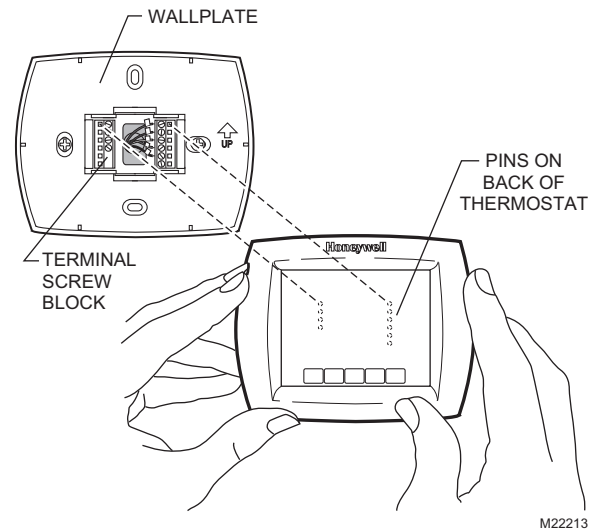

Fig. 24. Mount thermostat to wallplate.
1. Align the terminal screw blocks with the pins on the back of the thermostat. Push the thermostat straight onto the wallplate until it snaps into place. See Fig. 24.